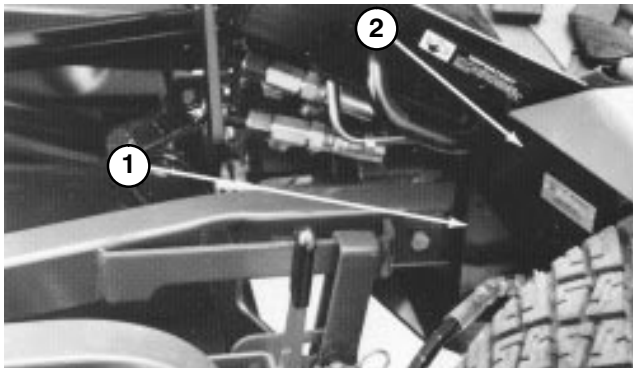

Figure 18
2. Disconnect (3) hydraulic lines (quick couplers) and wire harness at rear of deck.
4. Remove (2) capscrews and locknuts securing cutting unit carrier frames to traction unit lift arms (Fig. 18).